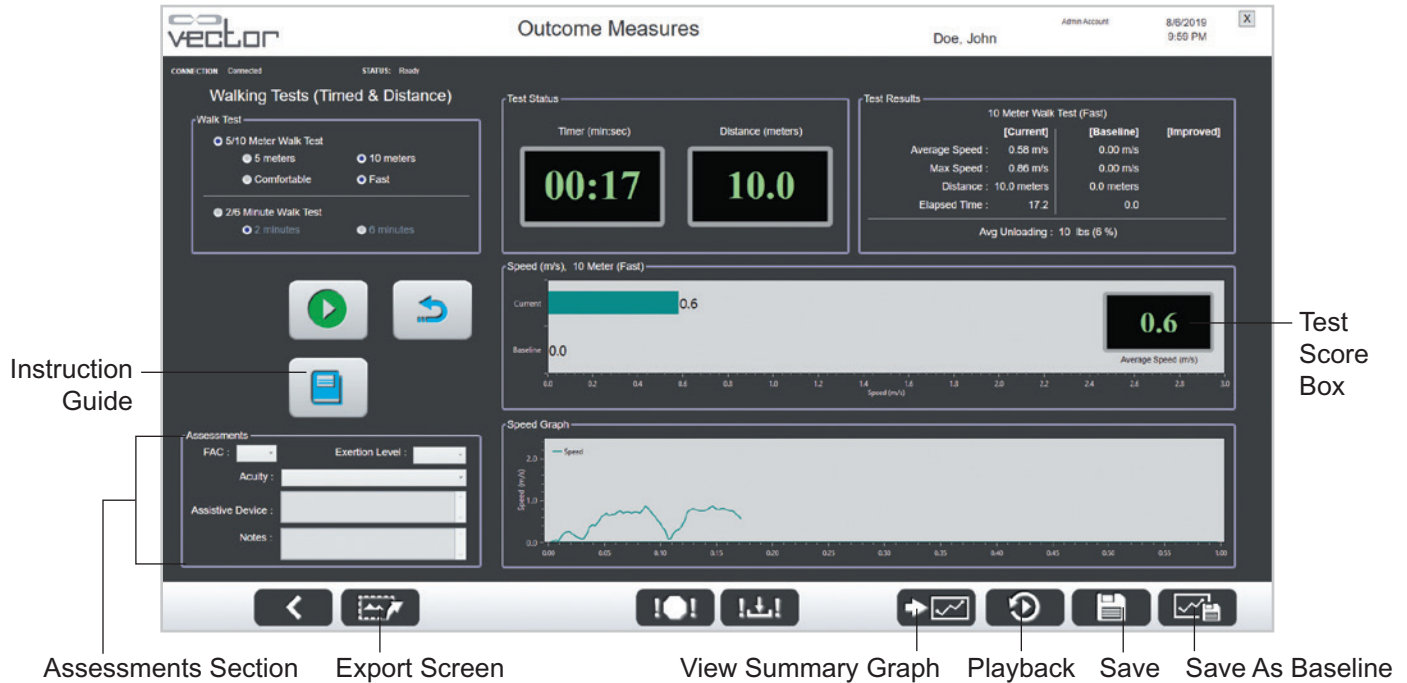

Figure 7-8: Outcome Measures Walking Tests Screen
11. The test results and graphs will be displayed on the screen. The Walk Test Score will be displayed in the test score box. See Figure 7-8. For a 5/10 meter Walk Test the Test Score is gait speed in meter per second (m/s). For a 2/6 minute Walk Test the Test Score is distance in meters. Press the Playback button to review the test. See Figure 7-8. The recorded test run will be replayed from beginning to end.
13. Press the Save button. See Figure 7-8. **The Save button must be pressed to save test results.** If the button is not pressed before starting another test run or before leaving the screen the current test run results will not be saved to the patient summaries.
14. To save the current test as a baseline, press the Save As Baseline button. See Figure 7-8.
15. To export the current test screen as a screen capture image, press the Export Screen button. See Figure 7-8. When the Export Screen button is pressed, the software saves the test screen as a PNG file and a Save As window will appear. Select the location to save the file.
Note: Press the Instruction Guide button to open a window displaying the walking tests instructions from this guide. See Figure 7-8.